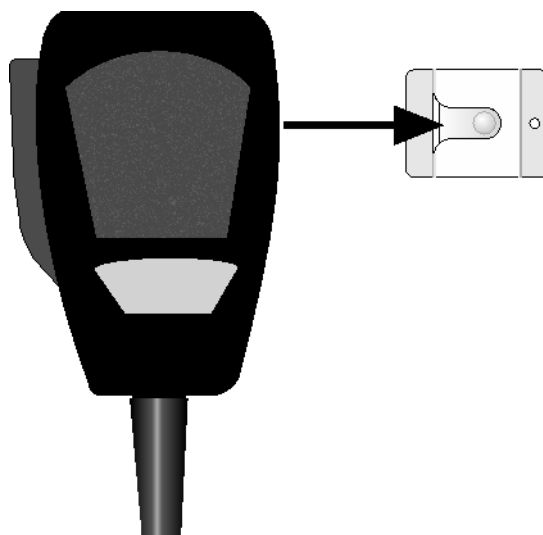

Figure 4-4 Sliding Microphone into Microphone Clip
1. Clip the microphone into the micro phone clip. See Figure 4-4.